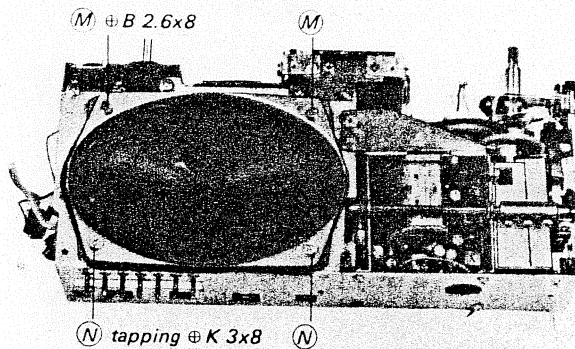

Fig. 2-9
11. Remove the two screws ($\oplus$ B 2.6x8) marked $\textcircled{M}$ and the two tapping screws ($\oplus$ K 3x8) marked $\textcircled{N}$ in Fig. 2-9.